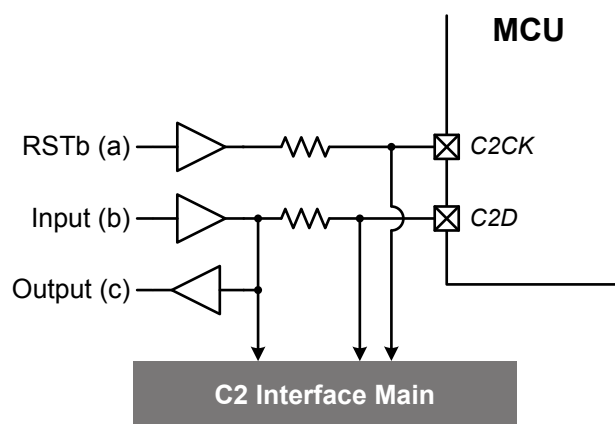

Figure 27.1. Typical C2 Pin Sharing
- Changed "master" to "main" in Figure 27.1 Typical C2 Pin Sharing on page 384.